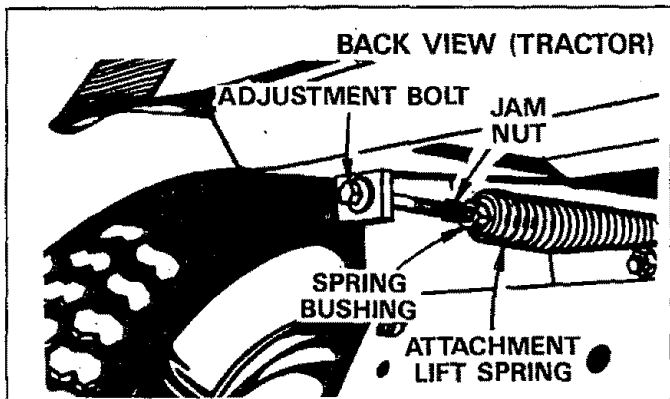

FIGURE 16
9. Relieve spring tension on lift lever (see figure 16 and note below) loosening hex jam nut and unscrewing adjustment bolt counter-clockwise.